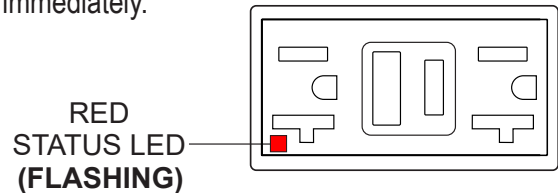

Figure 84. GFCI Receptacle (RED Flashing LED)
6. If the status LED (Figure 84) is **flashing (RED)**, **DO NOT** use the GFCI receptacle and replace it immediately.